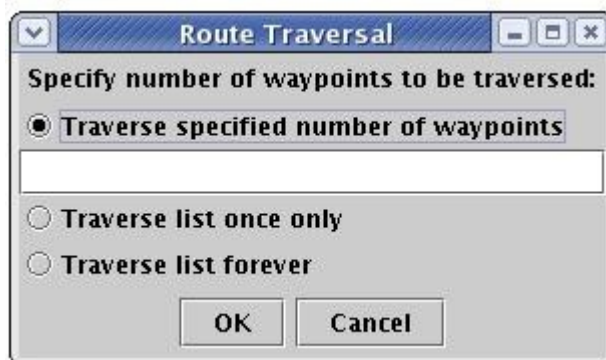

Figure 6-12. Route Traversal Dialog.
4. Select Routes/Execute Route, from the Glmpc Terminal's menu bar. A 'Route traversal' dialog will then appear (shown in Figure 6-12), requesting the number of waypoints to be traversed.